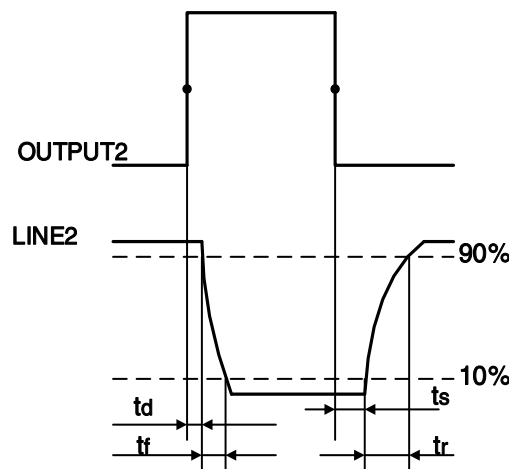

Figure 7-20 Parameter of Line2 output circuit
- Rising time delay =  $t_r+t_d$ :  $<20\mu s$  ( $0^{\circ}C\sim 45^{\circ}C$ ) (parameter description as shown in Figure 7-20)
- Falling time delay =  $t_s+t_f$ :  $<20\mu s$  ( $0^{\circ}C\sim 45^{\circ}C$ ) (parameter description as shown in Figure 7-20)